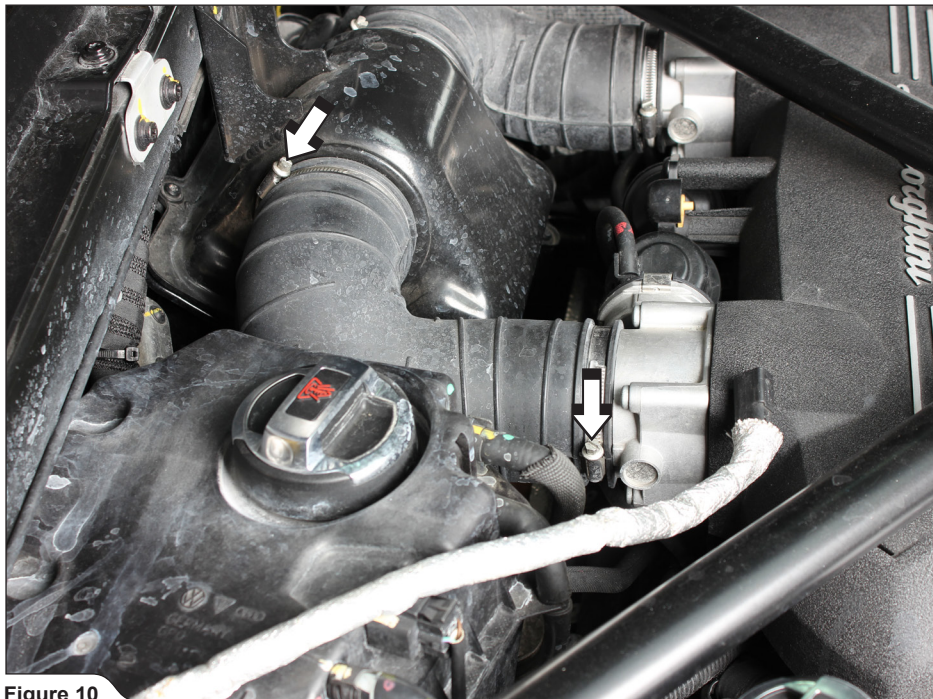

Figure 10
8. Loosen the marked left intake tube's tape clamps and remove the tube (**Figure 10**).